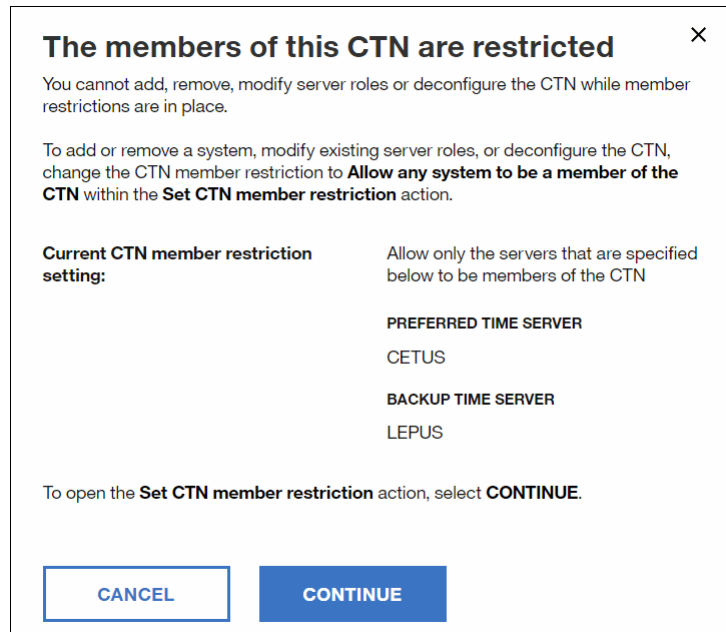

Figure 8-55 The members of this CTN are restricted window
**Note:** Before a CPC is added to a CTN, ensure that the Allow any server to be a member of the CTN option is set in the Coordinated Timing Network (CTN) member restriction preferences. If the Allow only the servers that are specified below to be members of the CTN option is selected, the “The members of this CTN are restricted” window opens and you cannot add a CPC to CTN (see Figure 8-55).